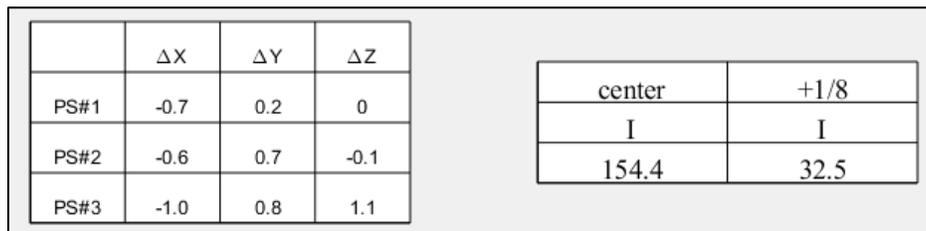

Figure 2.9: Point Source Position Chart and Scan Start Location Chart (example for Omni Legend 32 cm axial FOV).
1. Refer to Figure 2.9. When the point source positions fall within +/-1.0 mm of the actual Scan Field of View (SFOV) you may acquire the two remaining scans in the original Spatial Resolution protocol, after you follow the instructions in this section to change the corresponding scan Start Locations.
4. For Omni Legend Series, refer to Figure 2.9. The Start Scan Location chart shows the PS#1 scan start location at the Center FOV and 1/8 FOV. Use these values as the actual Start Locations for the final two scans in the Spatial Resolution Protocol. In the Figure 2.9 example, the center FOV start location is I154.4 and the 1/8th FOV location is I32.5.